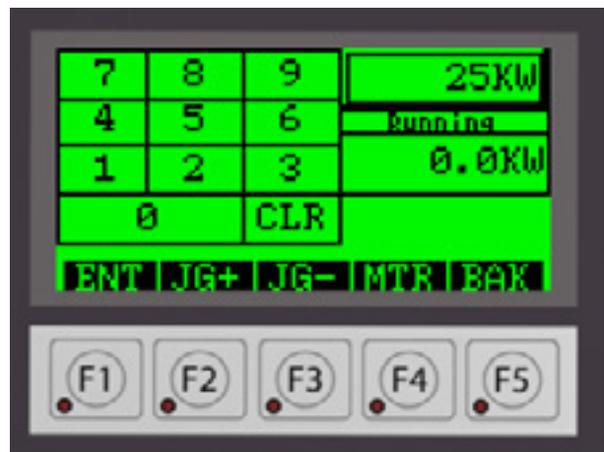

Figure 6 Entry Pad
3. To set the load amount, select the “Entry” section. A number pad to enter your load value will display (See Figure 6 Entry Pad). You cannot enter a value larger than the “Available” KW.